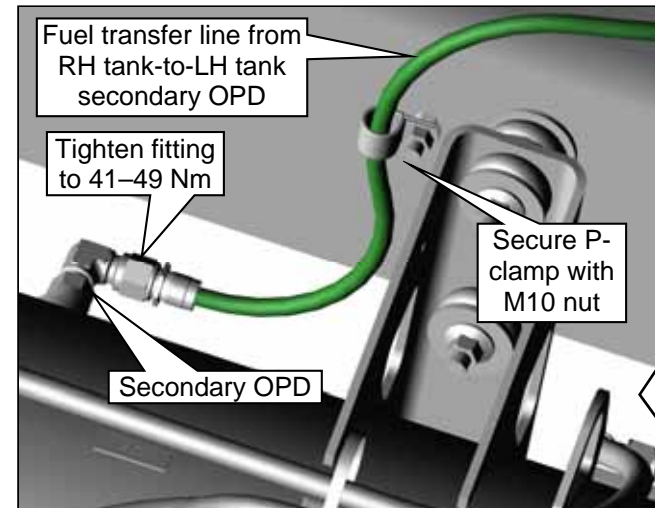

Figure 32.8 (Dual Tank Only)
6. **Dual Tank Only:** Route the RH tank transfer line from across cab rear support crossmember over the left frame rail and down to connect to the secondary OPD on the LH tank. Tighten the fitting to specification. **Figure 32.8.**
7. **Dual Tank Only:** Attach the P-clamp to the transfer line. Secure the P-clamp to the stud protruding from the frame rail using the supplied M10 nut. If necessary, remove the OEM bolt and reorient to permit installation. **Figure 32.8.**